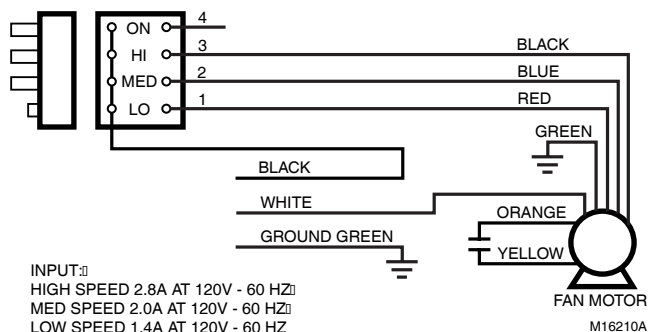

Fig. 5. Typical F118 120V, 60 Hz Wiring Diagram.
1. Pull the wire to the electrical box through the hole in the top of the cabinet. Refer to Fig. 5 and 6 for typical wiring diagrams.